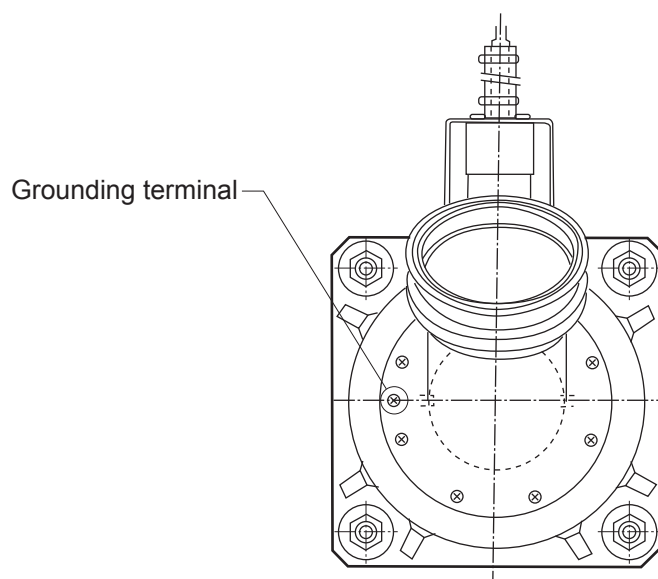

Figure 11 Grounding terminal
- Ground the flowmeter with the grounding terminal. (The placement of the grounding terminal is shown in Figure 11 .)
- (c) Ground the detector using the grounding terminal (Figure 11) (ground resistance needs to be less than 100 Ω).